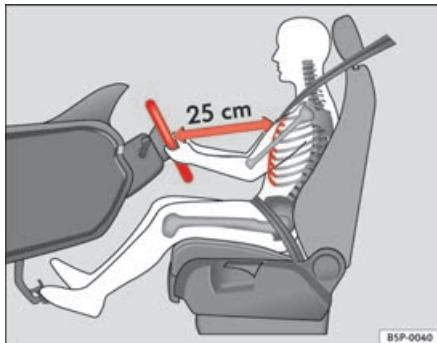

Fig. 1 The proper distance between driver and steering wheel
- Adjust the steering wheel so that there is a distance of at least 25 cm between the steering wheel and the centre of your chest ⇒ fig. 1.
- Adjust the driver's seat so that there is at least 25 cm distance between the centre of the chest and the hub of the steering wheel ⇒ page 9, fig. 1. If you are sitting nearer than 25 cm, the airbag system cannot protect you properly.